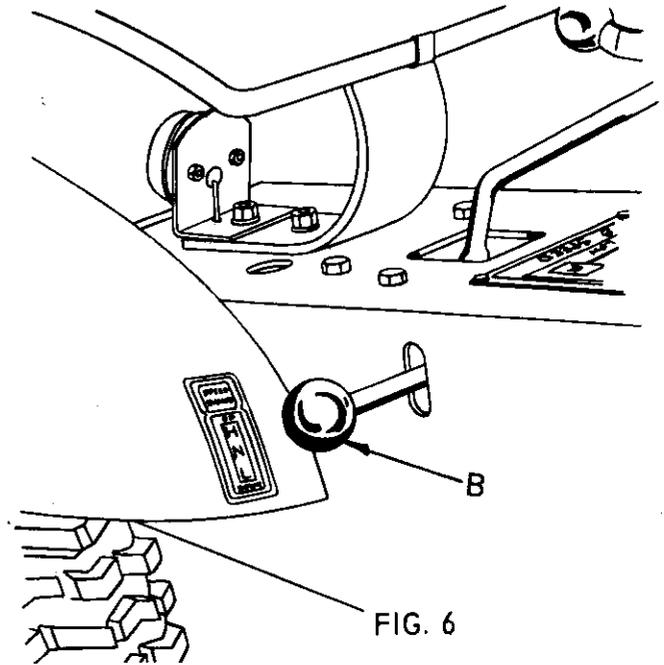

FIG. 6
- b. The high-low range lever (B, Fig. 6), is in NEUTRAL.